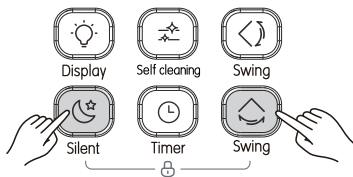

Figure 3.19
- 1) Press and at the same time to lock the button (see Figure 3.19), and the screen will display the lock icon ;